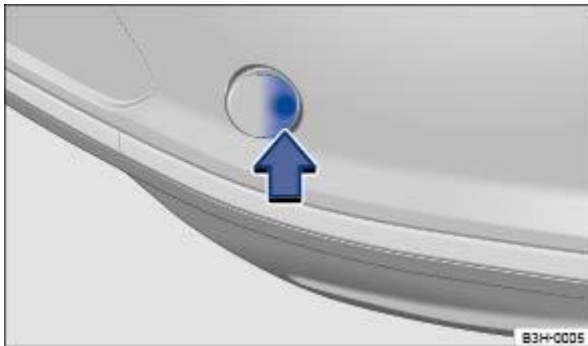

Fig. 178 On the right-hand side of the rear bumper: removing the cover.
- ❑ Push the lower area of the cover ⇒ Fig. 178 in the direction of the arrow to release the cover.